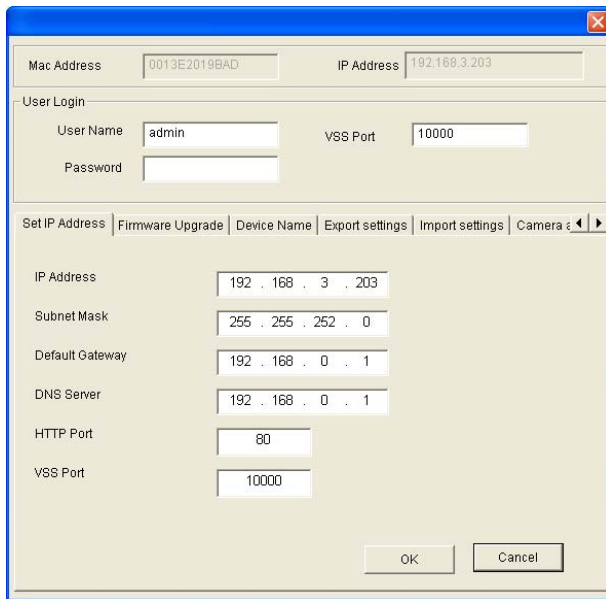

Figure 5-3
2. Double-click GV-CS1320 in the list. Figure 5-3 appears.
1. In Figure 5-3, click the **Import Settings** tab. This dialog box appears.